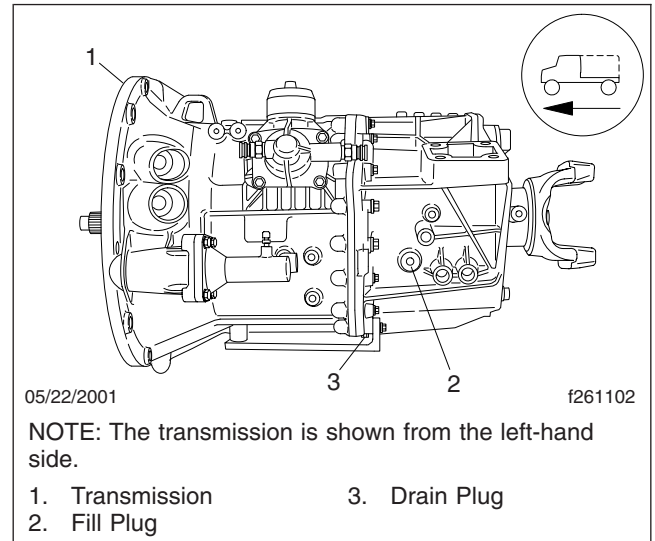

Fig. 7, Mercedes-Benz Transmission Drain and Fill Plugs
2. Drain the transmission fluid, as follows. See Fig. 7.
3. Clean the area around the fill plug. See Fig. 7 for the location of the fill plug.